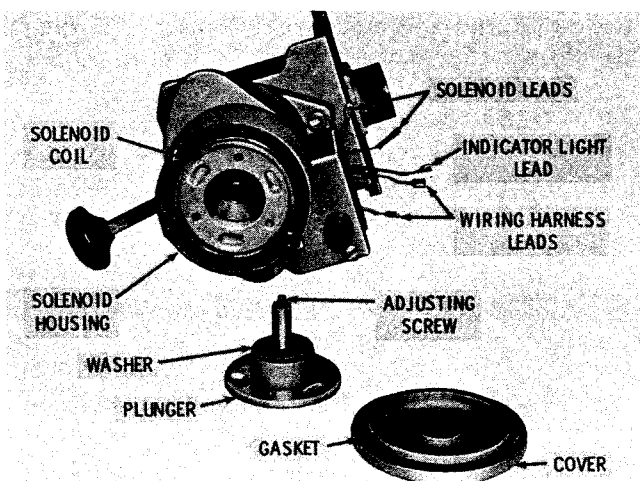
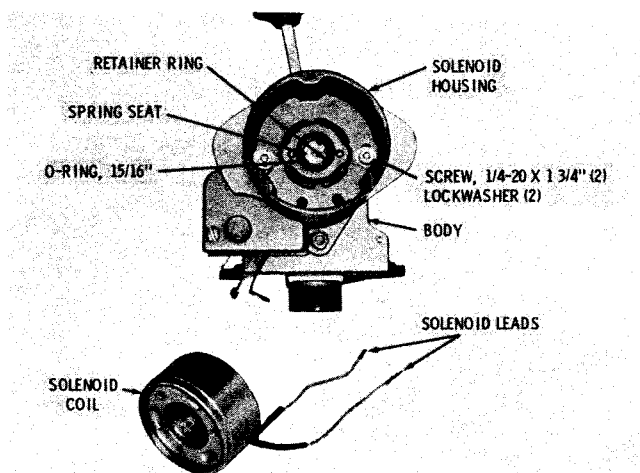

Fig. 4-7. Downshift inhibitor components
Fig. 4-8. Shift tower assembly with solenoid removed
(6) Remove the solenoid cover and gasket (fig. 4-7). Remove the plunger and washer from the solenoid.
(7) Remove the heat-shrink tubing from the solenoid and wiring harness leads (fig. 4-7). Disconnect the leads.
(8) Remove the solenoid coil, working the leads through the holes in the shift tower body and solenoid housing (fig. 4-8). Remove the O-ring, retaining ring, spring seat and spring from the solenoid housing.
(9) Remove two socket-head screws and lockwashers that retain the solenoid housing (fig. 4-8). Remove the housing.
(24) Install two 1/4-20 x 1 3/4-inch screws, and lockwashers, to retain the solenoid housing (fig. 4-8).
(25) Install override spring 61 (fold-out 2) into the center bore of the solenoid housing.
(26) Install the spring seat, and retainer ring (fig. 4-8). Install the 15/16-inch O-ring into the housing counterbore.
(29) Install the solenoid coil into the solenoid housing (fig. 4-8). Thread the solenoid leads through two holes in the solenoid housing, indicator support, and body cover until they can be pulled out of the bottom opening in the body (fig. 4-7).
(30) Install the solenoid plunger and washer into the solenoid coil (fig. 4-7). Install the solenoid housing cover and gasket. Retain the cover with three 8-32 x 1/2-inch screws and lockwashers.
(31) With the solenoid and cover installed, check the shift handle for freedom of movement in both upshift and downshift directions. Any tendency to catch during downshift movement indicates interference between the inner and outer clutch teeth. This may be corrected by removing the cover, gasket, solenoid plunger and washer, and by rotating the adjusting screw (fig. 4-7) clockwise (inward) until there is no interference. Adjust the screw one turn at a time, and recheck for clutch interference after each adjustment.
(32) At this stage of assembly, there are five unconnected leads at the bottom of the selector assembly. Four are light color; one is black (fig. 4-7). Attach the two solenoid leads to the proper two wiring harness leads, insulating each connection with a short length of heat-shrink tubing.